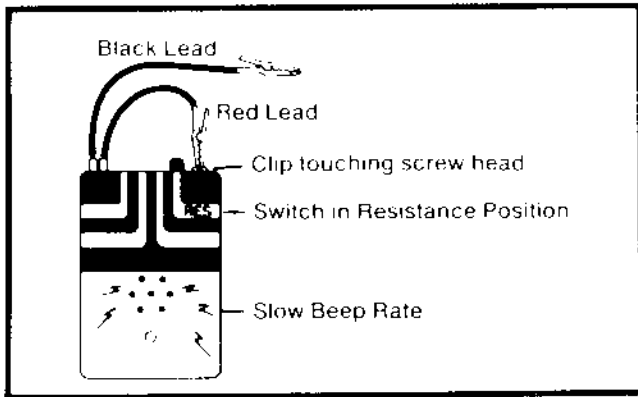

Figure 2 — Calibration
- (e) **CALIBRATION:** An internal resistor valued at 1 megohm is provided for comparison to the fault resistance of the circuit or facility being tested. (See Figure 2)
- (c) To replace the battery, remove the two (2) screws from the front panel. Replace the battery, being sure no leads are exposed. Re-screw the two halves together.
- (a) With the slide switch in the "Resistance" position, touch the clip of the Red test lead to the screw head next to the slide switch opening. (See Figure 2) This places a 1 megohm short on the test set leads through an internal resistor. The set should then produce a series of beeps at a rate of slightly less than one per second. This beep rate will subsequently be referred to as the "Calibration Rate."